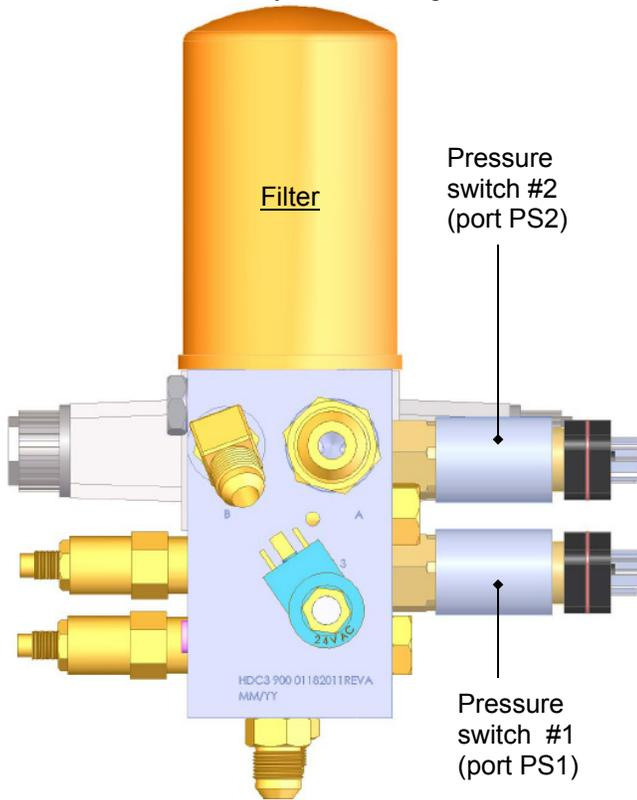

FIG. 5: Front view
2. Prepare the pressure switches (see FIGS. 5 & 6):
- b. Decrease the setting on PS2—the upper pressure switch shown in FIGS. 5 & 6. Rotate the knurled knob counterclockwise until it clicks. The click indicates that the directional valve shifted. Consequently, the piston rod retracts and the platen returns to the raised position. When the platen is fully retracted, the power unit turns off. The compacting force is now adjusted.
- i. Increase the relief valve (RV) setting. Turn the valve clockwise until the GA port gauge displays 3000 psi.
- ii. As the power unit runs, turn the knurled knob on the lower pressure switch connected to port PS1 (see FIGS. 5 & 6) counterclockwise until it "clicks". The click indicates that the switch is open. Simultaneously, the valve shifts and the piston retracts (platen rises).